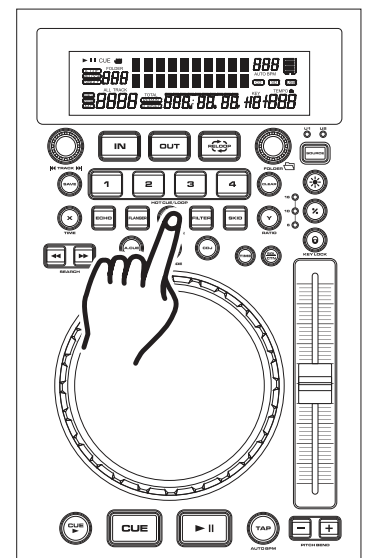

Figure 43
**HOLD BUTTON:** Use the *HOLD BUTTON* (18) to lock your parameters. If the hold button is not activated any changes to your parameters will be momentary. To activate the hold function press the *HOLD BUTTON* (18) as in figure 43. When the hold function becomes activated, the hold button LED will glow.